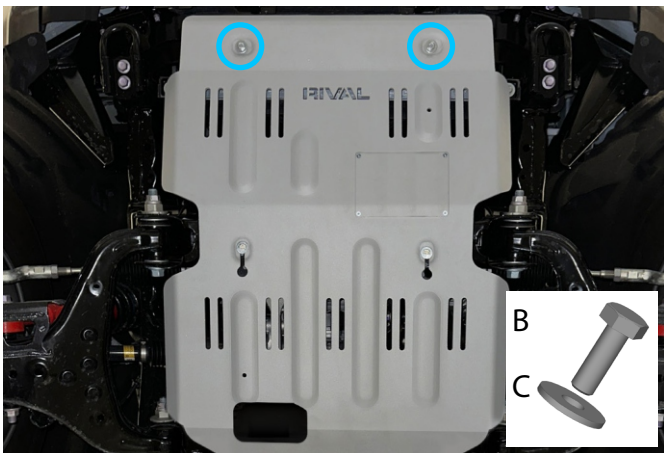

Fig. 9
9. Secure the front of the skid plate using M8x25 bolts and M8 washers (items B, C) as shown in Fig. 9.